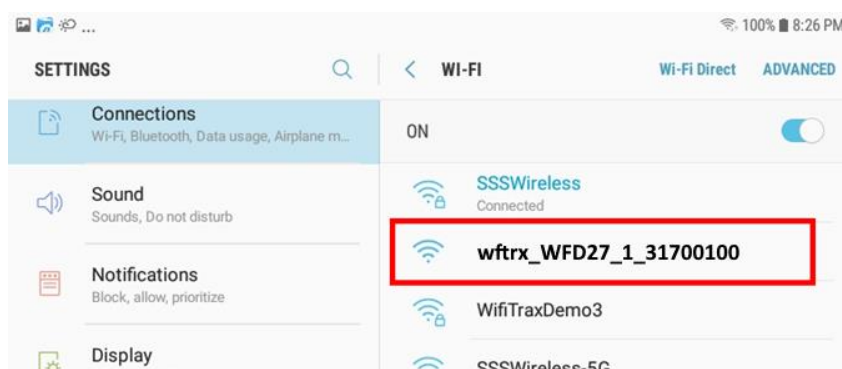
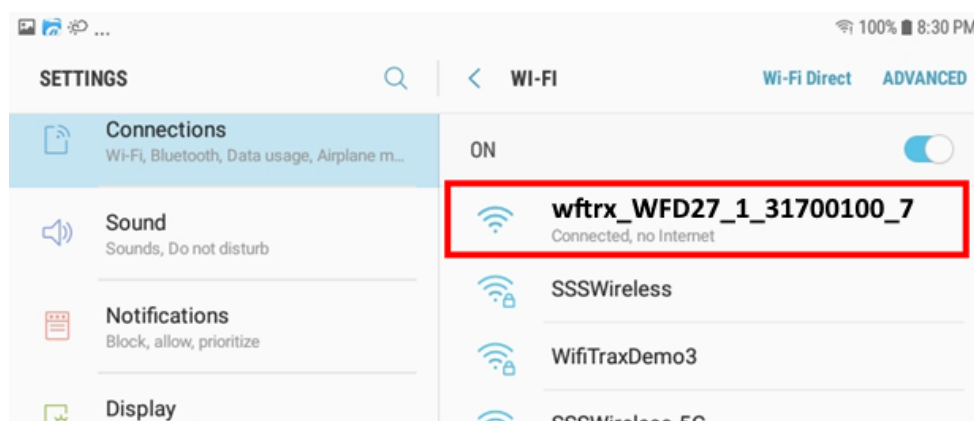

Figure 14 WFD-27 Wi-Fi Access Point is visible
Figure 15 Connected to the WFD-27 Wi-Fi Access Point
- (6) You now see a collection of available Wi-Fi Access Points. Look for one that is of the form wftrx_WFD27_1_XXXXXXX_7, where XXXXXXXX is the serial number of your unit that appears on its bag and the unit itself, like Figure 14. Tap that Wi-Fi Access Point – no password is required – and wait for it to connect. You will not be able to access the internet while you are connected to the Wi-Fi access point of the WFD-27 but consult the manual later to see how you can put everything on your home network. After a few moments the Access point should show “Connected, no internet” as Figure 15